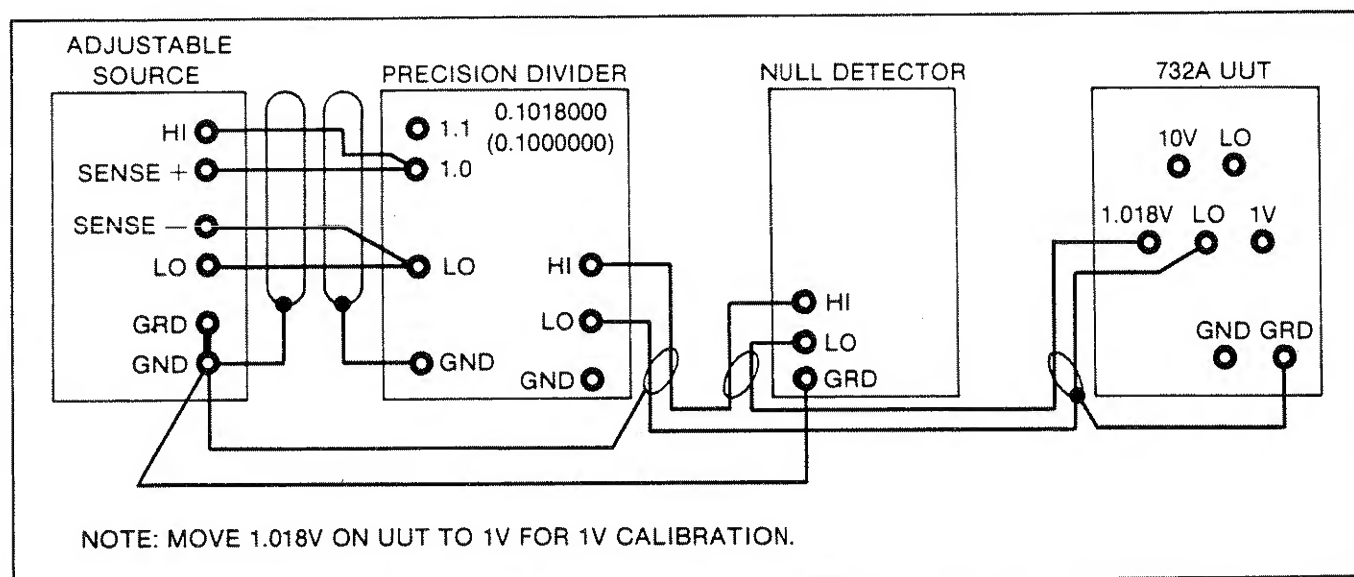

Figure 4-8. Calibration of 1.081V (and 1V) to 732A Procedure 'A'
11. Connect the equipment as shown in Figure 4-8. Set the Precision Divider ratio switches to 0.1018000.
4-45. Refer to Figure 4-8. Perform this procedure to calibrate the battery charger after repair of the battery charger circuit. The equipment required is listed in table 4-1.